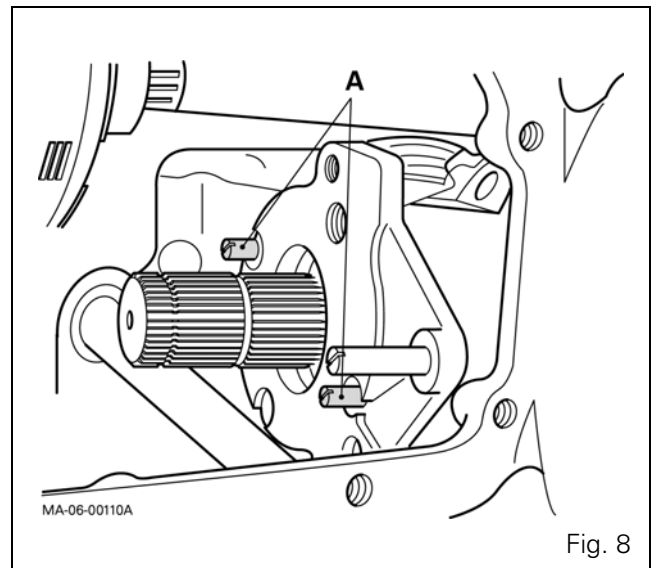
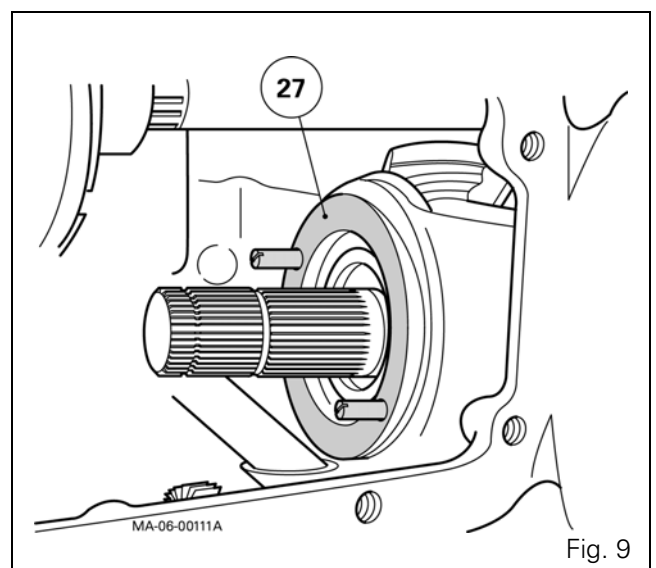

Fig. 8
Fig. 9
26. Remove two diametrically opposed screws (28) and screw in two guide studs A (Fig. 8). The purpose of this operation is to hold the shims (27) (Fig. 9).